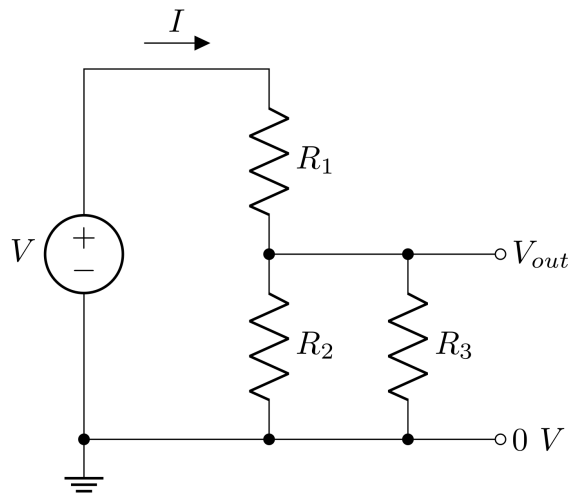

Figure 2: Modified Voltage Divider
3. Calculate the voltage, V_{out} , for the modified circuit shown in Figure 2 with $R_3 = 10\text{ k}\Omega$ and the other components unchanged.
4. An additional load is connected between V_{out} and ground in the form of the resistor R_3 as shown in Figure 2 . Calculate the voltage V_{out} for this circuit (with the non-ideal power supply) and with $R_3 = 10\text{ k}\Omega$.
6. *Complete this step only if your model and measurements did not agree.* If your model and measurements did not agree, you will have to either refine your model or your experiment. Let's start by refining your model. Consider the input resistance of your measurement device. Draw a circuit diagram that includes that resistance. *HINT: See Figure 2* Derive an expression for the output voltage now including the unknown measurement device resistance. Use this new model to determine the input resistance of measurement device. (that is, rearrange your equation to solve for R_3). You may have this from your prelab.